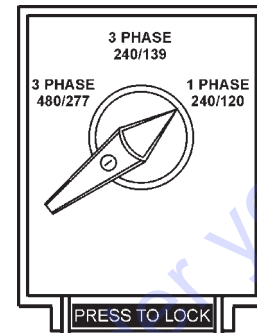

Figure 26. Voltage Selector Switch 240/120V Single-Phase Position
1. Place the voltage selector switch in the 1Ø 240/120V position as shown in Figure 26.